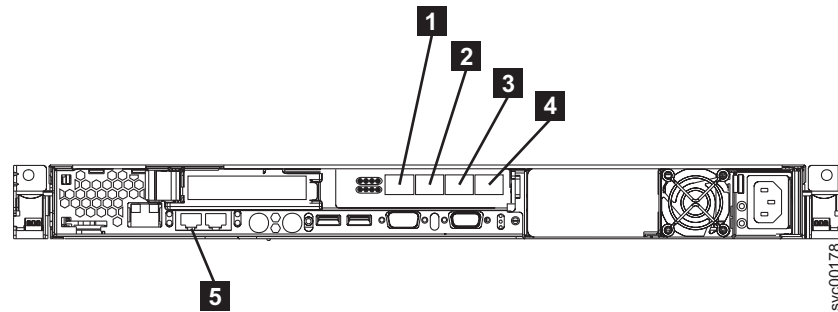
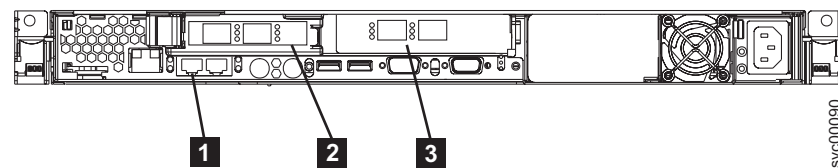

Figure 68. Connectors at the back of the SAN Volume Controller 2145-8F4
Figure 69. Connectors at the back of the SAN Volume Controller 2145-8F2
1. Connect the Ethernet cable to Ethernet port 1 **5** in Figure 68 on page 95 or Figure 69 on page 95.